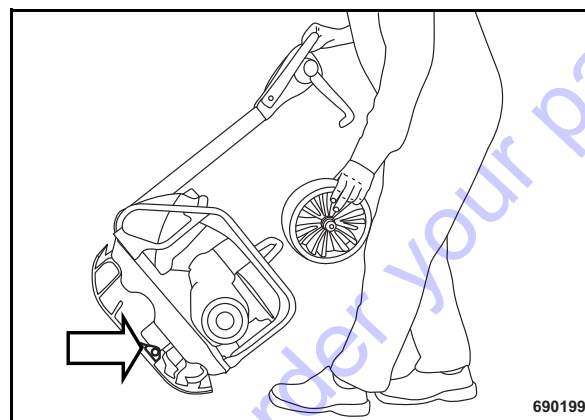

Fig. 34
- Insert the transport wheel into the bracket (Fig. 34) on the base plate.